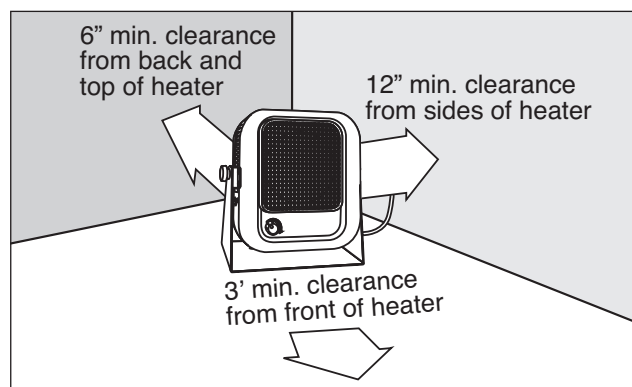

Figure 2
2. Rotate stand to desired position at bottom of heater (See Figure 2).